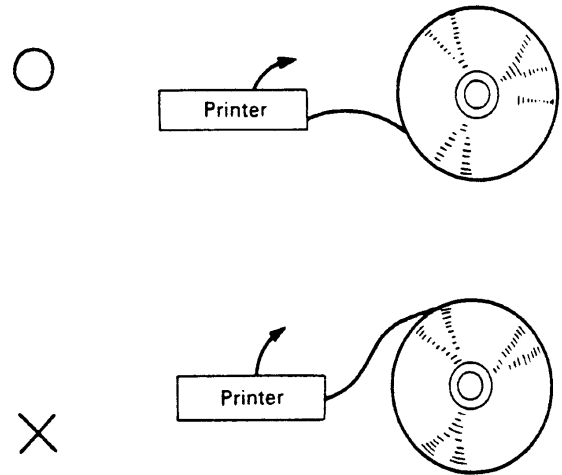

Fig. 2-2. Direction of Paper Insertion
- (1) **Always insert the paper in the direction shown in Fig. 2-2.**